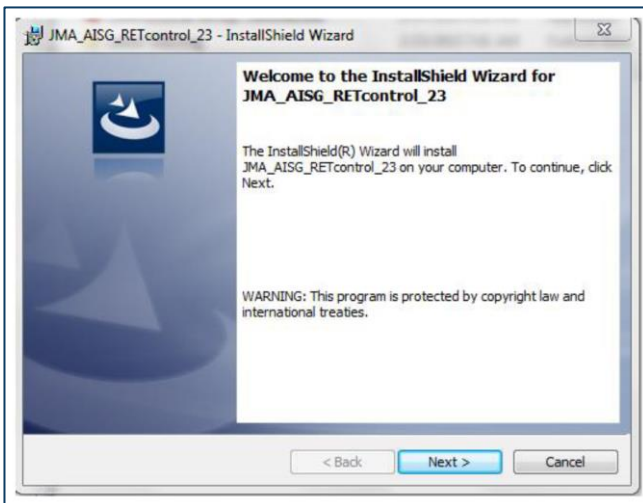

Fig. 1 – Welcome screen for installation
4. Install the GUI first, then the driver. To install the GUI, run the setup file. Figure 1 is just an example; the rev could be different.